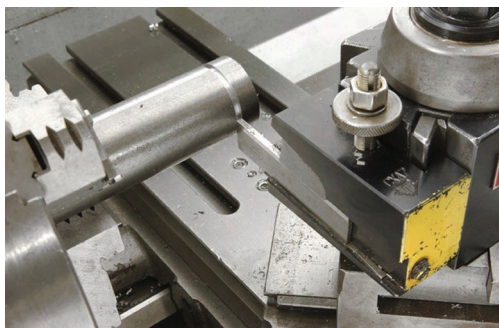

Figure 11-69 Identify this lathe operation used on both manual and CNC machines.
17. What is the name of the operation shown in Fig. 11-69?